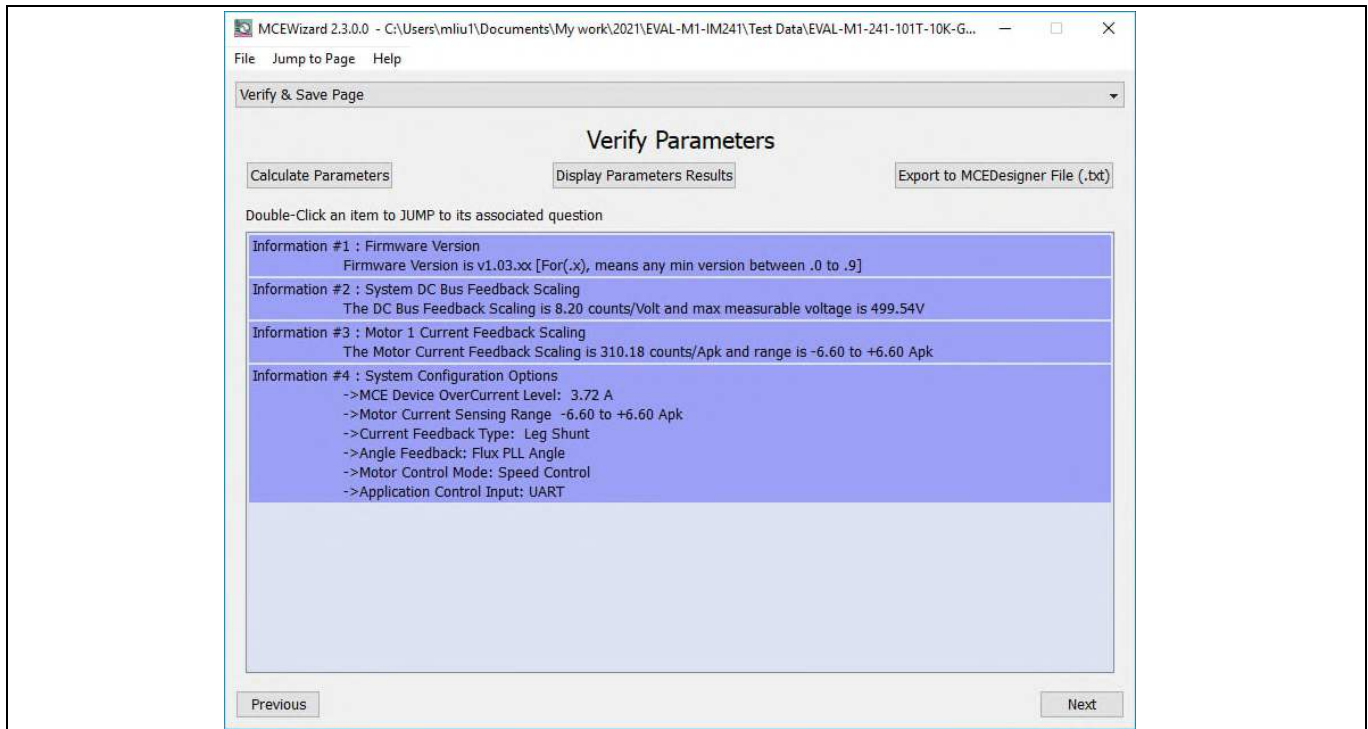

Figure 6 MCEWizard Verify and Save page
4. After system and operating parameters are set, go to the "Verify & Save Page" and click on "Calculate Parameters" button. If no errors are reported, then save the drive parameter set into your project directory by clicking "Export to MCEDesigner file (.txt)" (Figure 6); if an error is detected, double-click on the error message (highlighted in RED) and adjust the related parameter. The saved drive system parameter file will be later used by the MCEDesigner in step 9.